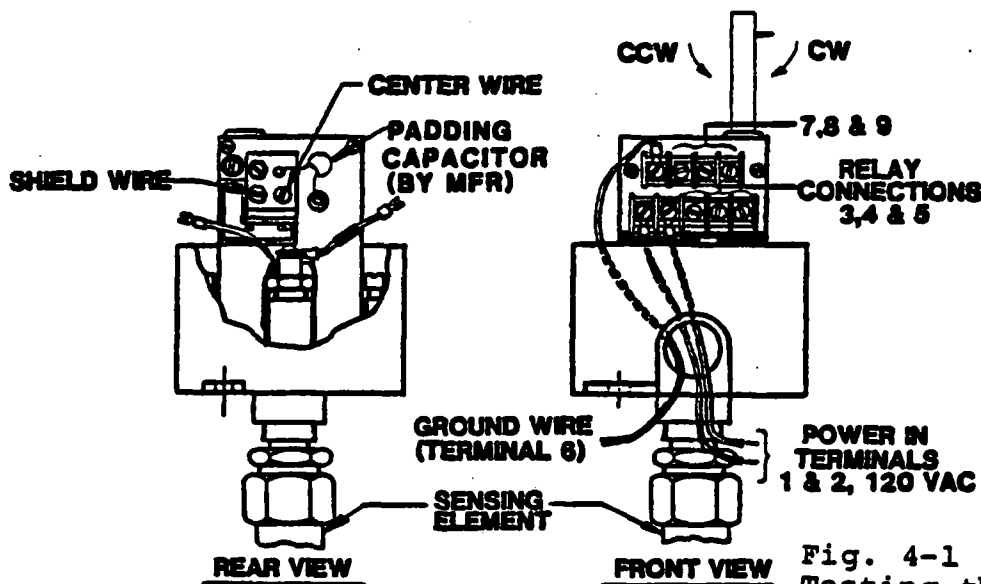

Fig. 4-1
A. See Figure 4-1. Disconnect the sensing element connections from the electronic unit by
removing the wires from the center and Shield terminals. Leave the power connected. If the unit has a padding capacitor attached, remove one end of the capacitor as shown in Figure 4.1.